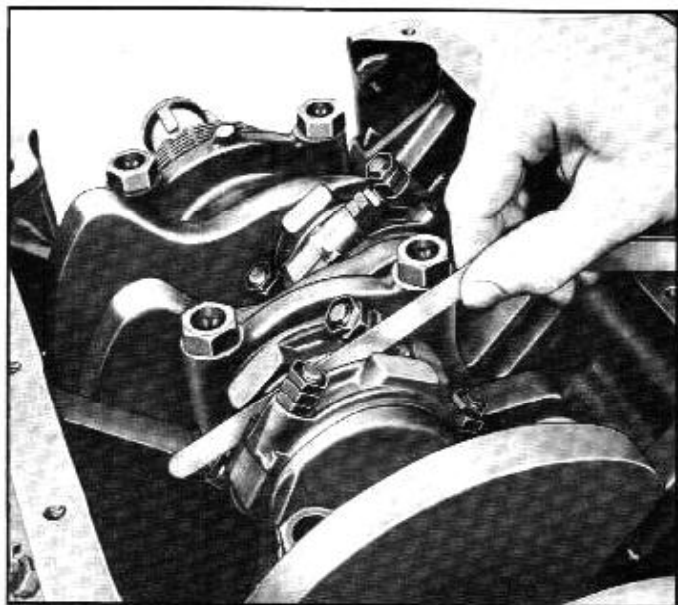

Fig. 6A-114—Checking Connecting Rod Side Clearance has been fitted.
16. Check connecting rod side clearance using feeler gauge. See figure 6A-114. Limits are .006" to .016" (wear limit .019").